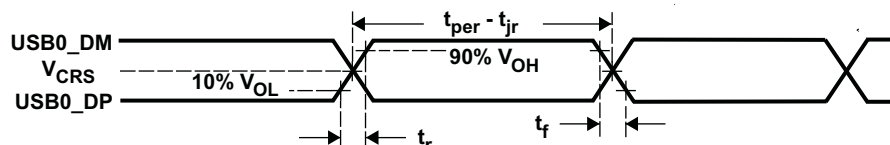

**Figure 6-66. USB0 Integrated Transceiver Interface Timing**
**Table 6-99. Switching Characteristics Over Recommended Operating Conditions for USB2.0 (see Figure 6-66)**